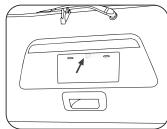

FIG 3
2. With the licence plate off, check if there is a pre-existing hole through which the cables from the camera can be passed through to the boot of the vehicle as in (**FIG 3**). If there are no pre-existing holes, carefully drill a hole of sufficient diameter to allow the cables to be passed into the interior of the vehicle (through a rubber grommet) and seal the hole with silicone to avoid water leakage.